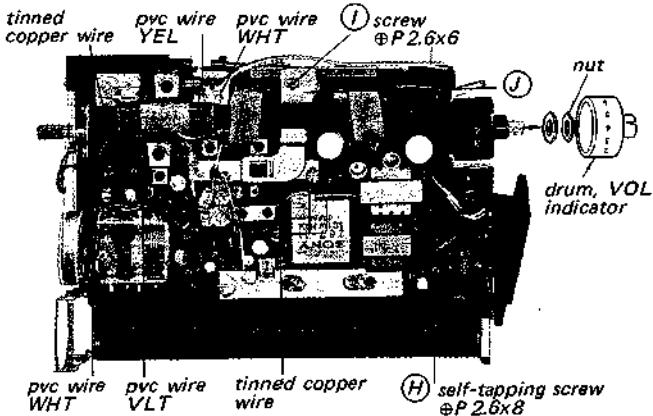

Fig. 2-5.
2. Unsolder the wires shown in Fig. 2-5.
3. Remove the two screws labeled **H** in Fig. 2-5.